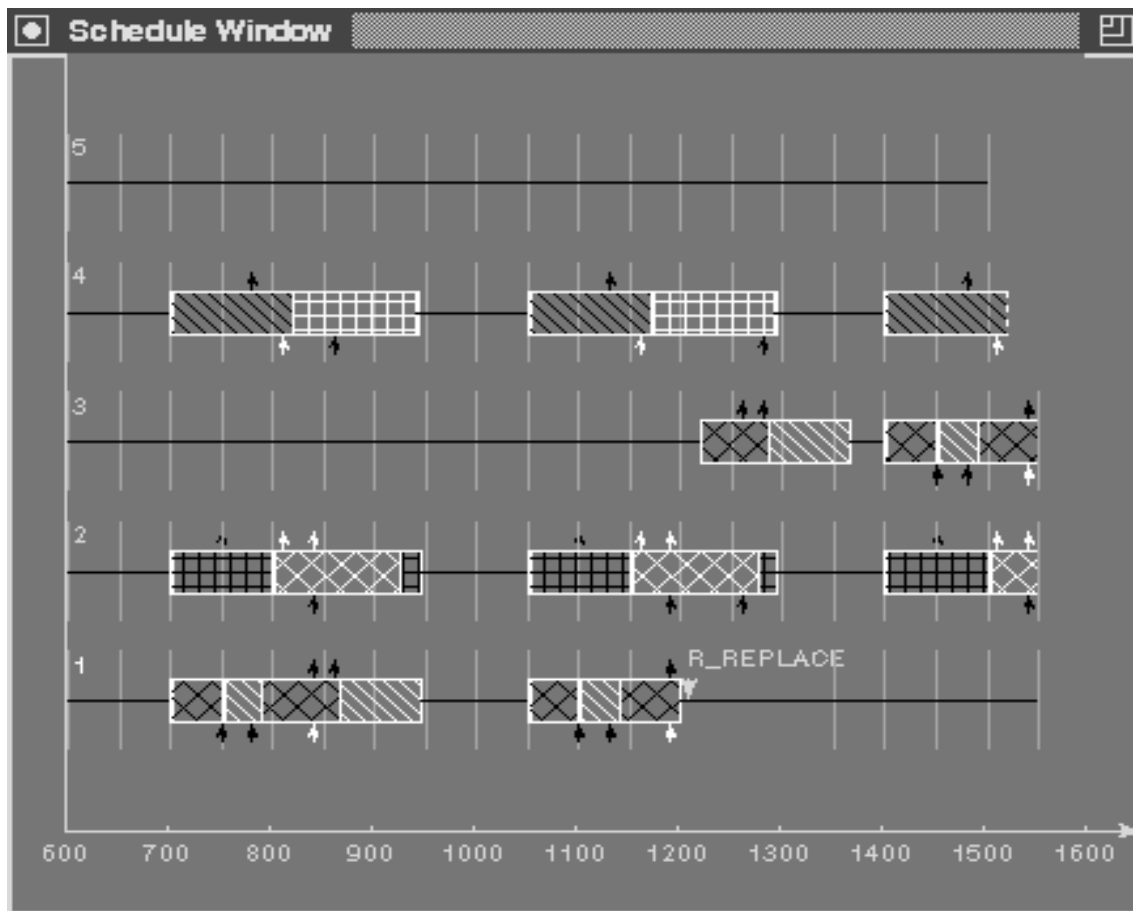

Figure 8: Schedule Window of the Simulator
- **SCHEDULE** is a command button which is disabled before the simulation is started. During the execution of the simulation, this button is used to map or minimize the schedule window which displays how tasks are scheduled at each node, in real time. Each row represents a node (Y-axis), with time represented on the X-axis, in seconds. Nodes are identified by number. Tasks scheduled at a particular node are indicated by color-coded blocks which appear in the row of the node upon which they are running. The user can see when subtasks are started, when they finish execution, when they have been preempted or suspended themselves, when they have received/sent messages, when the nodes have been checkpointed, when faults arrive at a node (its ID becomes red(faulty node)), and finally what kind of recovery action has been taken in case of a fault. It is possible to remove the information of certain nodes from this window by clicking mouse button-2 on the node ID and add it back by clicking mouse button-1 on the node square in the main window. The Schedule window can be scrolled to see the tasks running on all nodes by pressing and holding mouse button-1 and moving the mouse up or down vertically. An example window is shown in Figure 8.